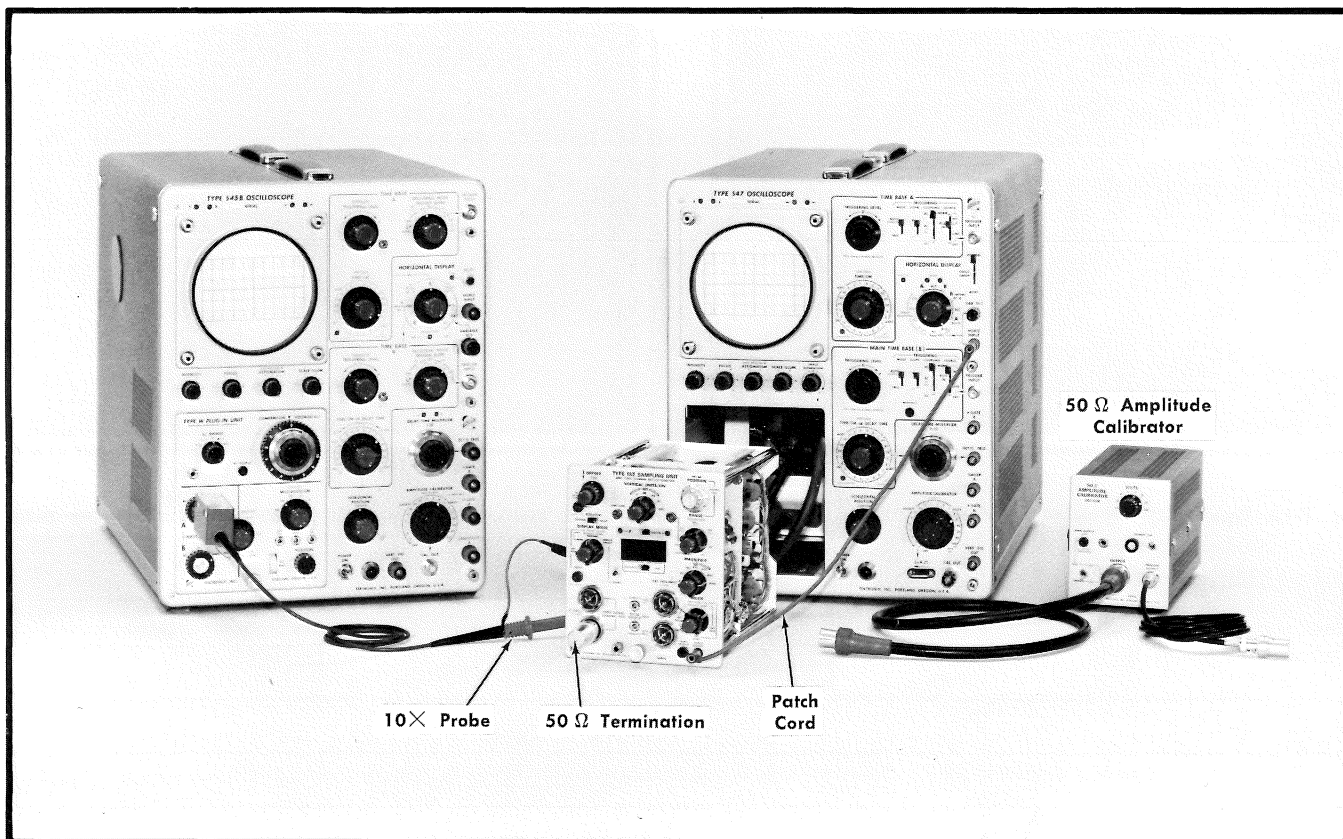
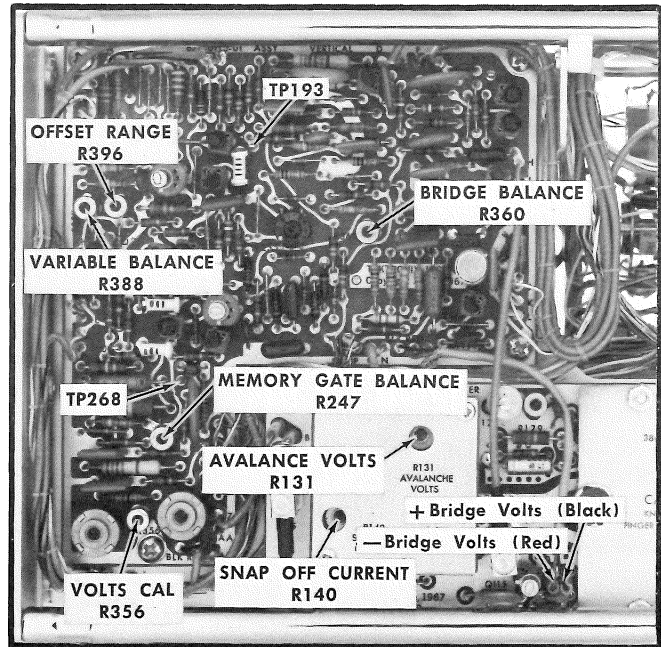

Fig. 7-15. Initial equipment setup for steps 11 through 19.
Fig. 7-16. Location on Vertical circuit board of controls and test points.
- Use the equipment as shown in Fig. 7-15. Connect the 10× Probe to the + Bridge Volts lead; see Fig. 7-16.
- Rotate the VERTICAL UNITS/DIV switch to .005 and adjust the BRIDGE BALANCE control R360, shown in Fig. 7-16 for no level change on the test oscilloscope.
- Adjust the Type 1S2 MEMORY GATE BALANCE control R247, shown in Fig. 7-16, for no trace shift on the test oscilloscope as the ρ -VOLTS switch is changed between ρ and VOLTS.
- Observe the trace on the Indicator Oscilloscope and adjust the OFFSET RANGE control, R396 shown in Fig. 7-16, to center the trace vertically on the CRT graticule.
- Rotate the VERTICAL UNITS/DIV VARIABLE control throughout its range and adjust the VARIABLE BALANCE control, R388 shown in Fig. 7-16, for no trace shift on the Indicator Oscilloscope CRT graticule.
h. Adjust the VOLTS CAL control, R356 shown in Fig. 7-16, to position the bottom of the display at the Test Oscilloscope graticule center line (4 volts of signal amplitude at the VERT OUTPUT jack.)